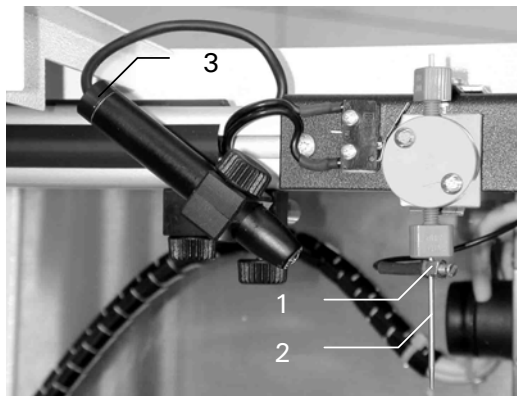

FIGURE 3-8 The Pen Light and the Needle Tee
- c) Loosen the screw the ground cable (item 1; FIGURE 3-8) and remove the ground cable.
- d) Unscrew the lower fingertight nut and remove the needle from the needle tee (item 2; FIGURE 3-8).
- a) Pull the lamp holder out of the pen light housing (item 3; FIGURE 3-8).